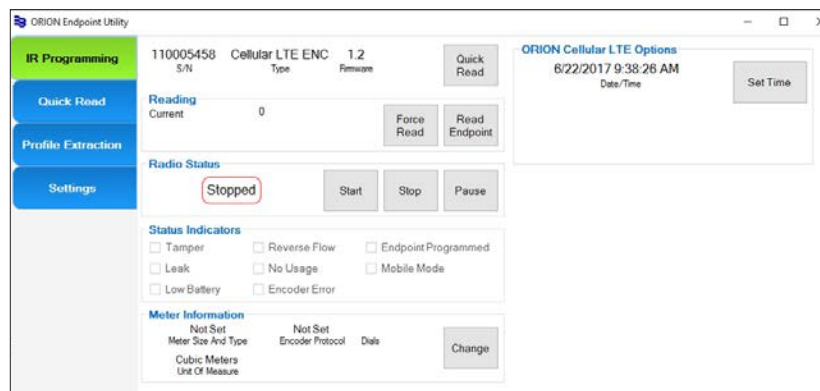

Figure 20: ORION Cellular LTE Endpoint - Stopped
1. Align the optical head of the IR cable with the ORION Cellular LTE endpoint IR LED port and tap **Read**. In this example, the endpoint Radio Status is “Stopped” as shown in Figure 20.